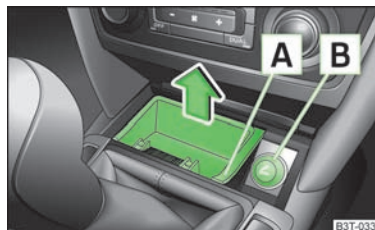
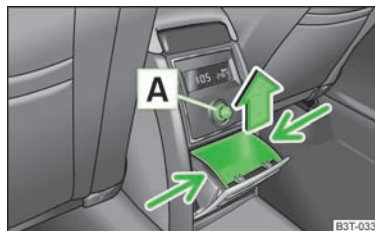

Fig. 85
Fig. 86
- Grasp the ashtray insert in the area **A** » Fig. 85 and remove it in the direction of the arrow.
- Grasp the insert in the area marked with the arrows » Fig. 86 and remove it.
- Press the button of the cigarette lighter **A** » Fig. 86 or **B** » Fig. 85.
- In the front centre console - **B** » Fig. 85.
- In the rear centre console - **A** » Fig. 86.